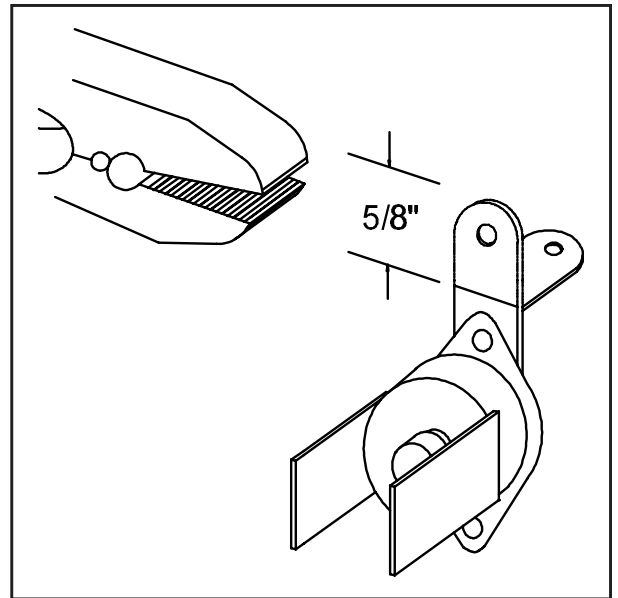

Figure 5
1. Bend the tab attached to the spillage switches as shown in Figure 5.